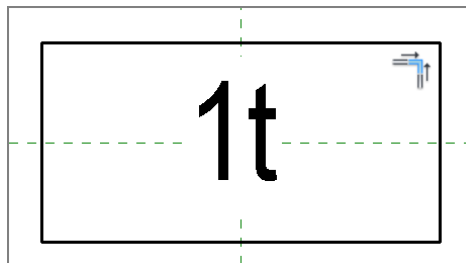

FIGURE 11.79: Creating the box
6. Offset the vertical reference plane to the left and to the right 1/8" (3mm), as shown in Figure 11.79.